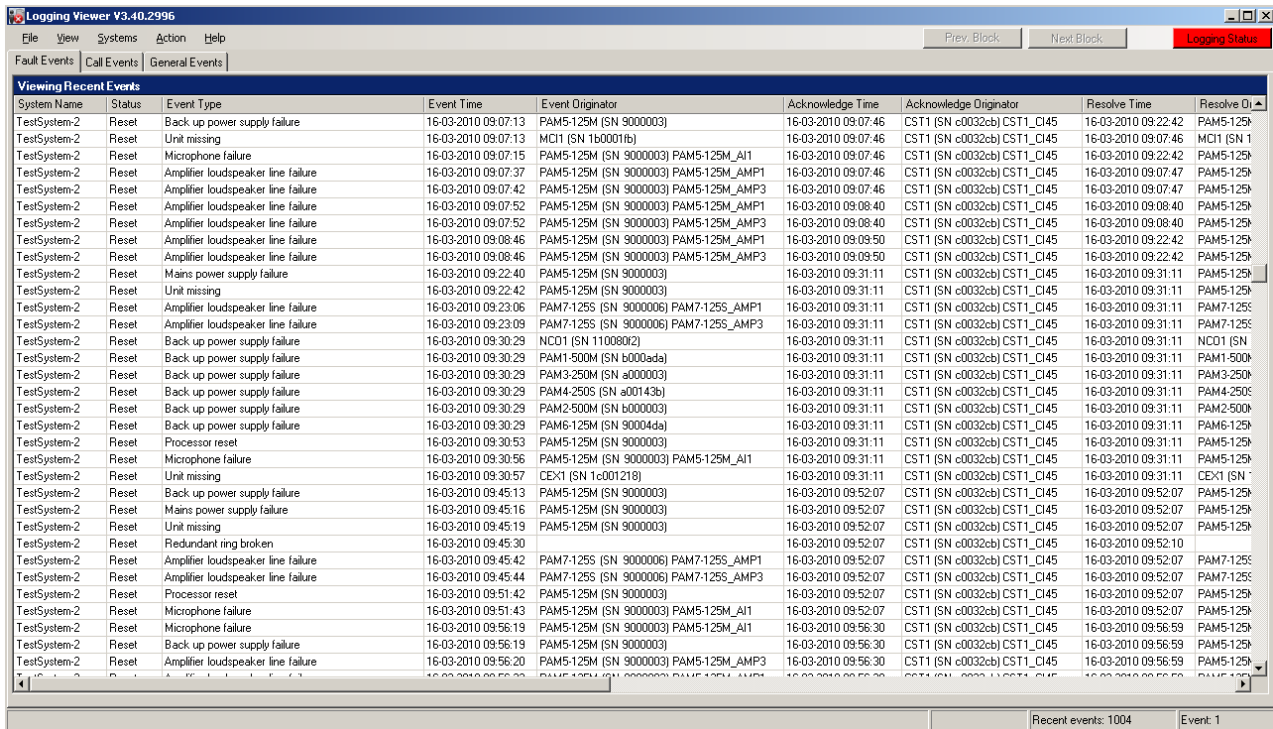

figure 57.4: Logging viewer
- 2 Click *Logging Viewer*. A screen similar to the one in figure 57.4 appears.
The *Logging Viewer* (see figure 57.4) contains the following: